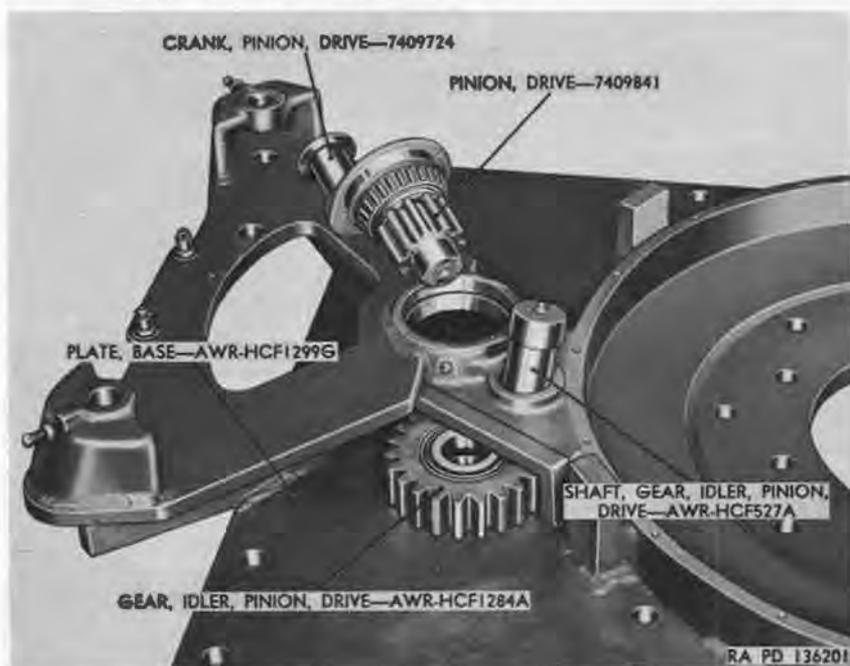

Figure 49. Pivot post drive pinion and drive pinion idler gear removed
- (3) Remove four cap screws and lockwashers from idler gear housing cover. Remove idler gear housing cover, gasket, and felt. Remove drive pinion, drive pinion crank, and bearing cone. Also remove drive pinion idler gear shaft, drive pinion idler gear, and bearing cone assembly from base plate (fig. 49).
- (4) Support drive pinion crank in arbor press and press drive pinion from drive pinion crank. Remove bearing cone from
as shown in figure 49. Aline bore of idler gear with shaft and install shaft through gear in base plate.